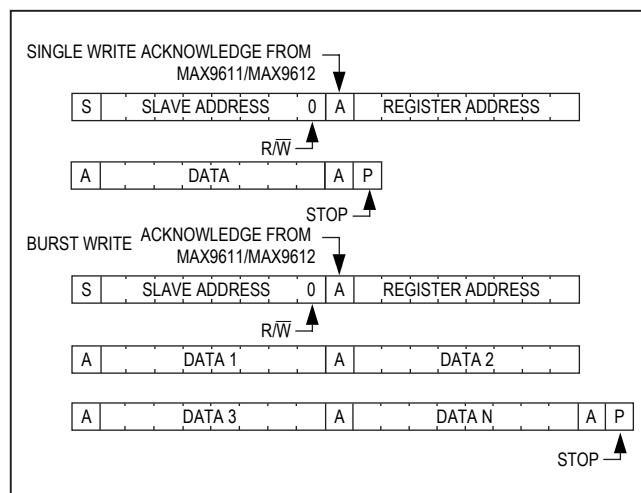

Figure 1. I²C Write Operation
A write operation (Figure 1) begins with the bus master issuing a START condition followed by seven address bits and a write bit (R/W = 0). If the address byte is successfully received, the MAX9611/MAX9612 (slave) issue an acknowledge (A). The master then writes to the slave and the sequence is terminated by a STOP (P) condition for a single write operation.
The five 12-bit data registers banks comprise two 8-bit registers for 8 MSBs and 4 LSBs. The 12-bit data is split between the two 8-bit data bytes as seen in Figure 1. They are read-only registers that hold the converted data. Do not issue a STOP command until both bytes are read. Instead use a Repeated START command to read the second byte.